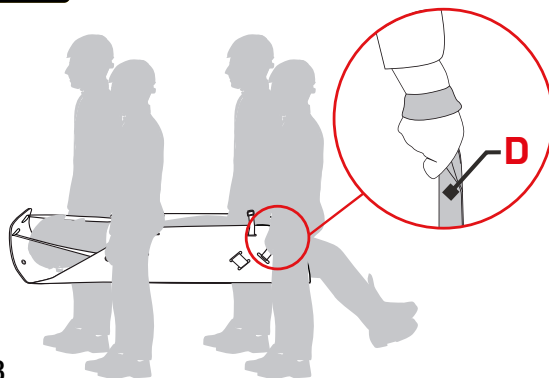

Fig.3
Transport by the handles (D) (fig. 3)	150 kg
The “**HALF ROLLY**” rescue sheet is suitable for lifting and transporting the patient using the side handles (fig. 3), dragging them using the sling (E) (fig. 4), and lifting/lowering them vertically using the static rope (fig. 5 e 6).